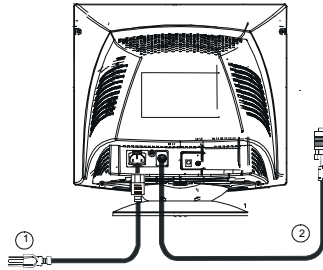

Figure 2 Connecting cables
**Connecting the video cable:** The monitor comes with a built-in video cable. Plug the signal cable's 15-pin connector into the computer's video port and tighten the two screws on the cable connector. (see figure 2)